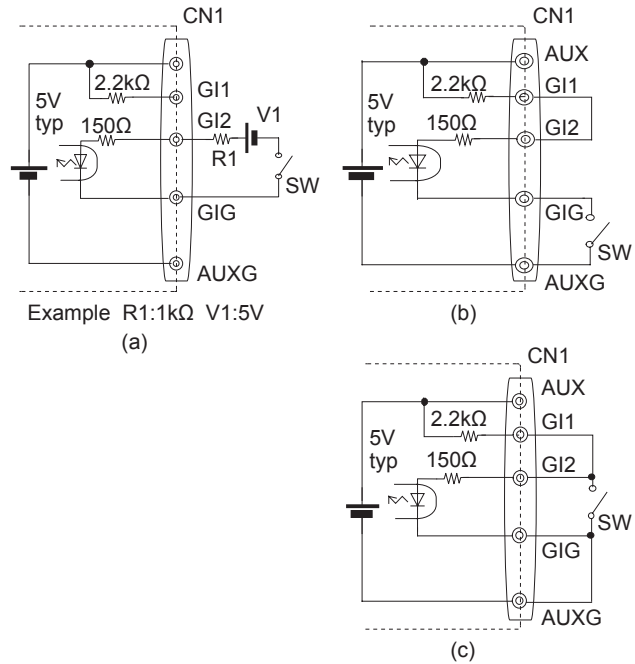

Fig.3.7 Connection examples for Global inhibit
- Table 3.2 is specifications and Fig.3.7 is use examples for Global inhibit.
- When stopping outputs by Global inhibit, the derating is required for AUX. Please refer to the item 3.16.